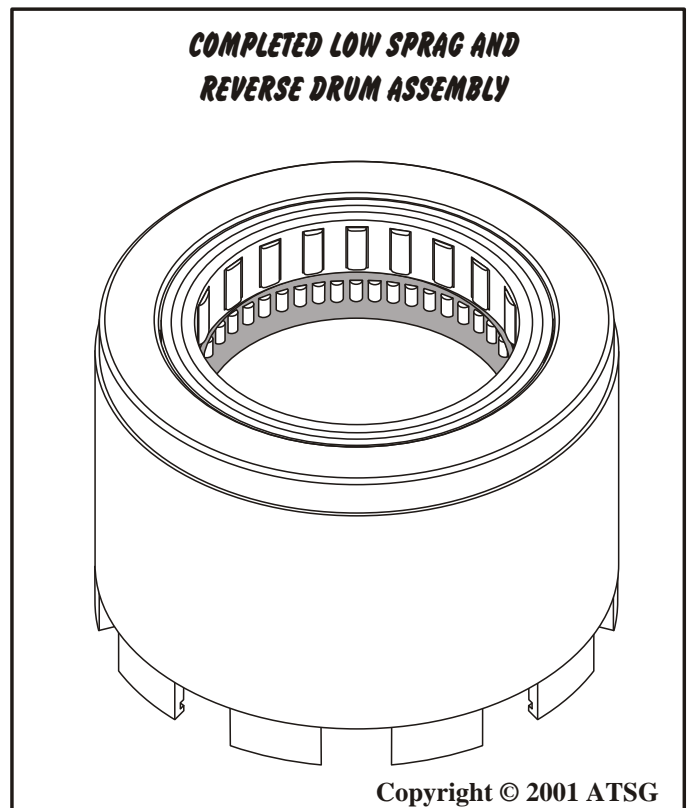

Figure 96
4. After inspection and re-assembly if necessary, set the completed reverse drum assembly aside for the final assembly process (See Figure 96).